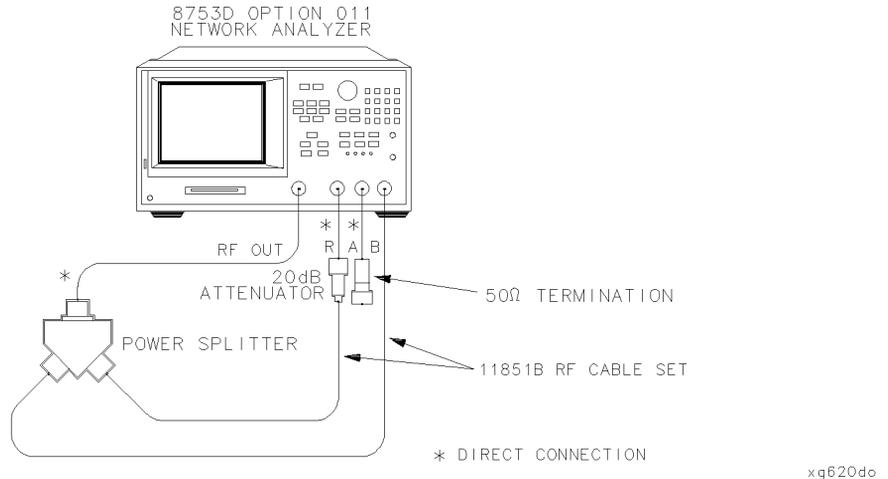

Figure 6-14. B into A Receiver Input Crosstalk Test Setup
- 22** Connect the equipment as shown in Figure 6-14.